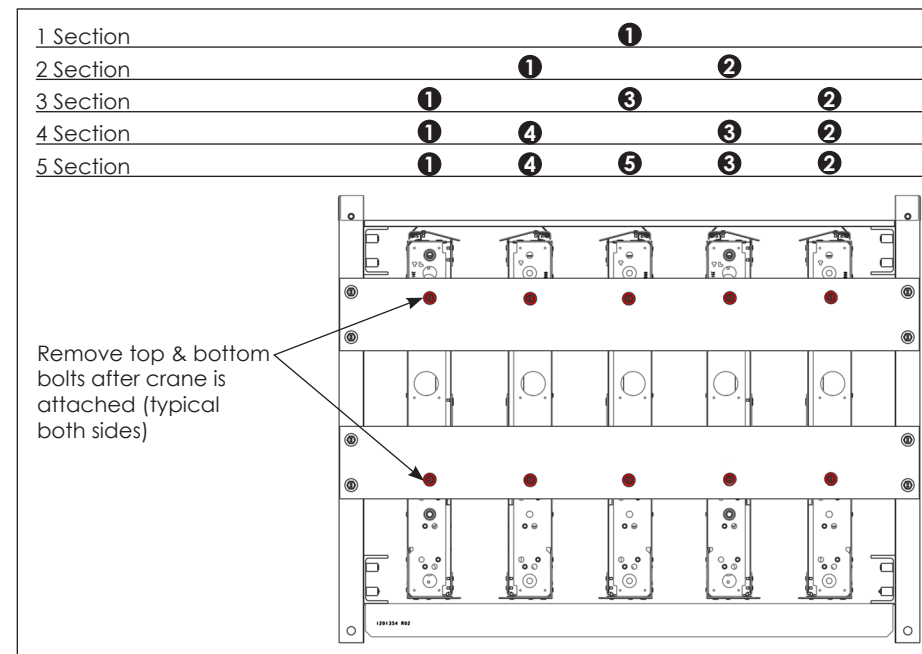
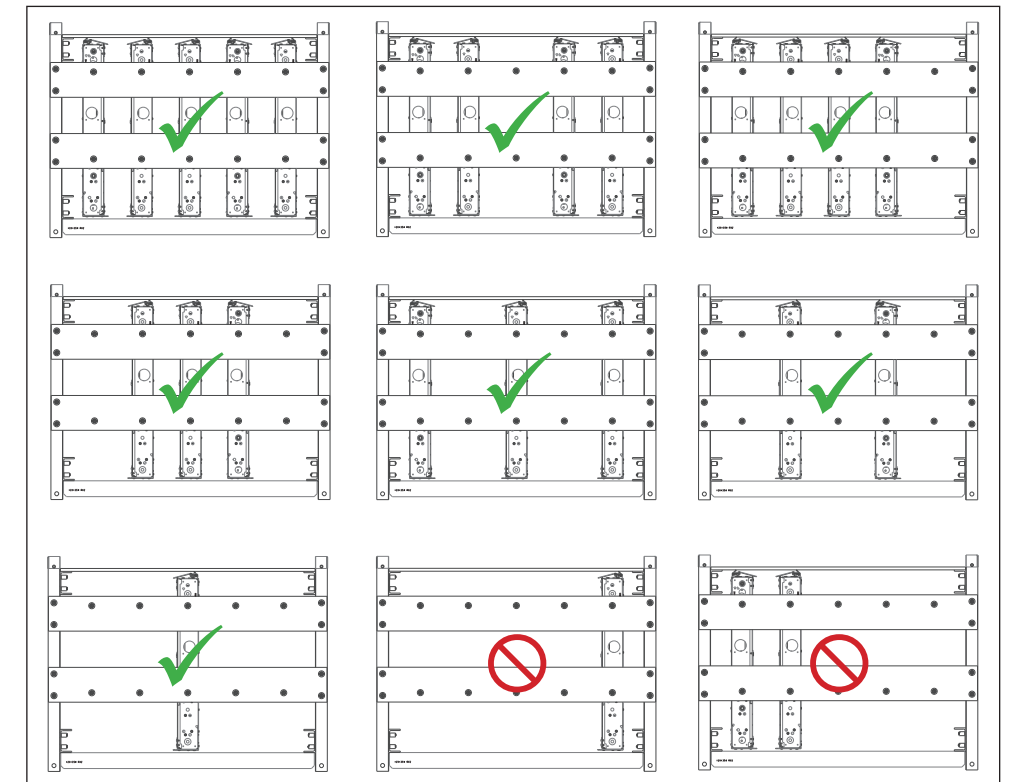

Figure 4: Section Lift Order (Front View)
Figure 5: Stable vs. Unstable Crate Configurations (Side View)
2. Use the hex security bit (Daktronics part number TH-1170) supplied in the toolkit to unlatch the beverage shroud. Flip the beverage shroud open and insert lift eyes in the top of the first display section. Refer to the **RTN-3000 Series Section Basics Quick Guide (DD5210841)**. Attach the crane to the lift points. Refer to **Figure 4** for the section lift order and to **Figure 5** for proper configurations.
Figure 5 shows stable and unstable configurations.